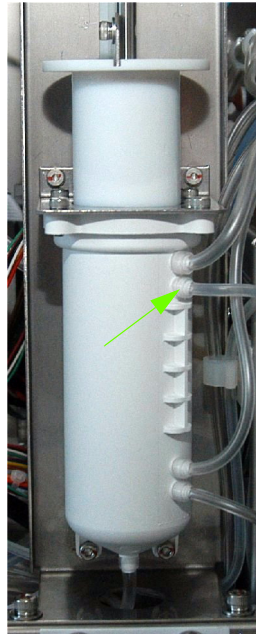

Fig.2: vacuum syringe
- ◆ Disconnect the second tubing from the top of the vacuum syringe (See "Fig.2: vacuum syringe, page 5").